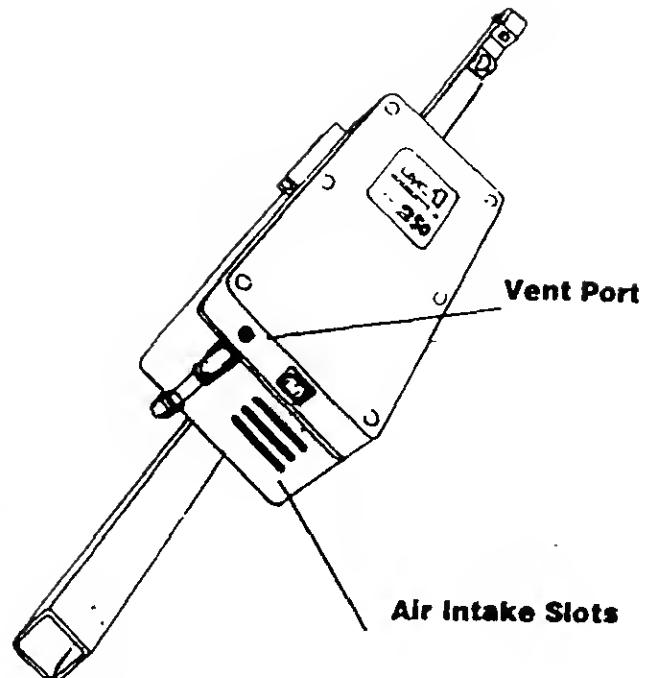

Figure 3
B. Fill with 1.3 liters of Distilled Water. Note: A water reservoir vent port exits at the bottom of the Power Module at the location shown in Figure 3. This vent port also serves as an overflow tube. An easy way to be sure the reservoir is full is to place a cup under this vent port and fill the reservoir until water begins to exit the port.
This unit is cooled by convection. Be sure the air intake slots on the bottom of the cabinet (refer to Figure 3) and air vent below the I.V. Pole mount (figure 4) are not blocked.